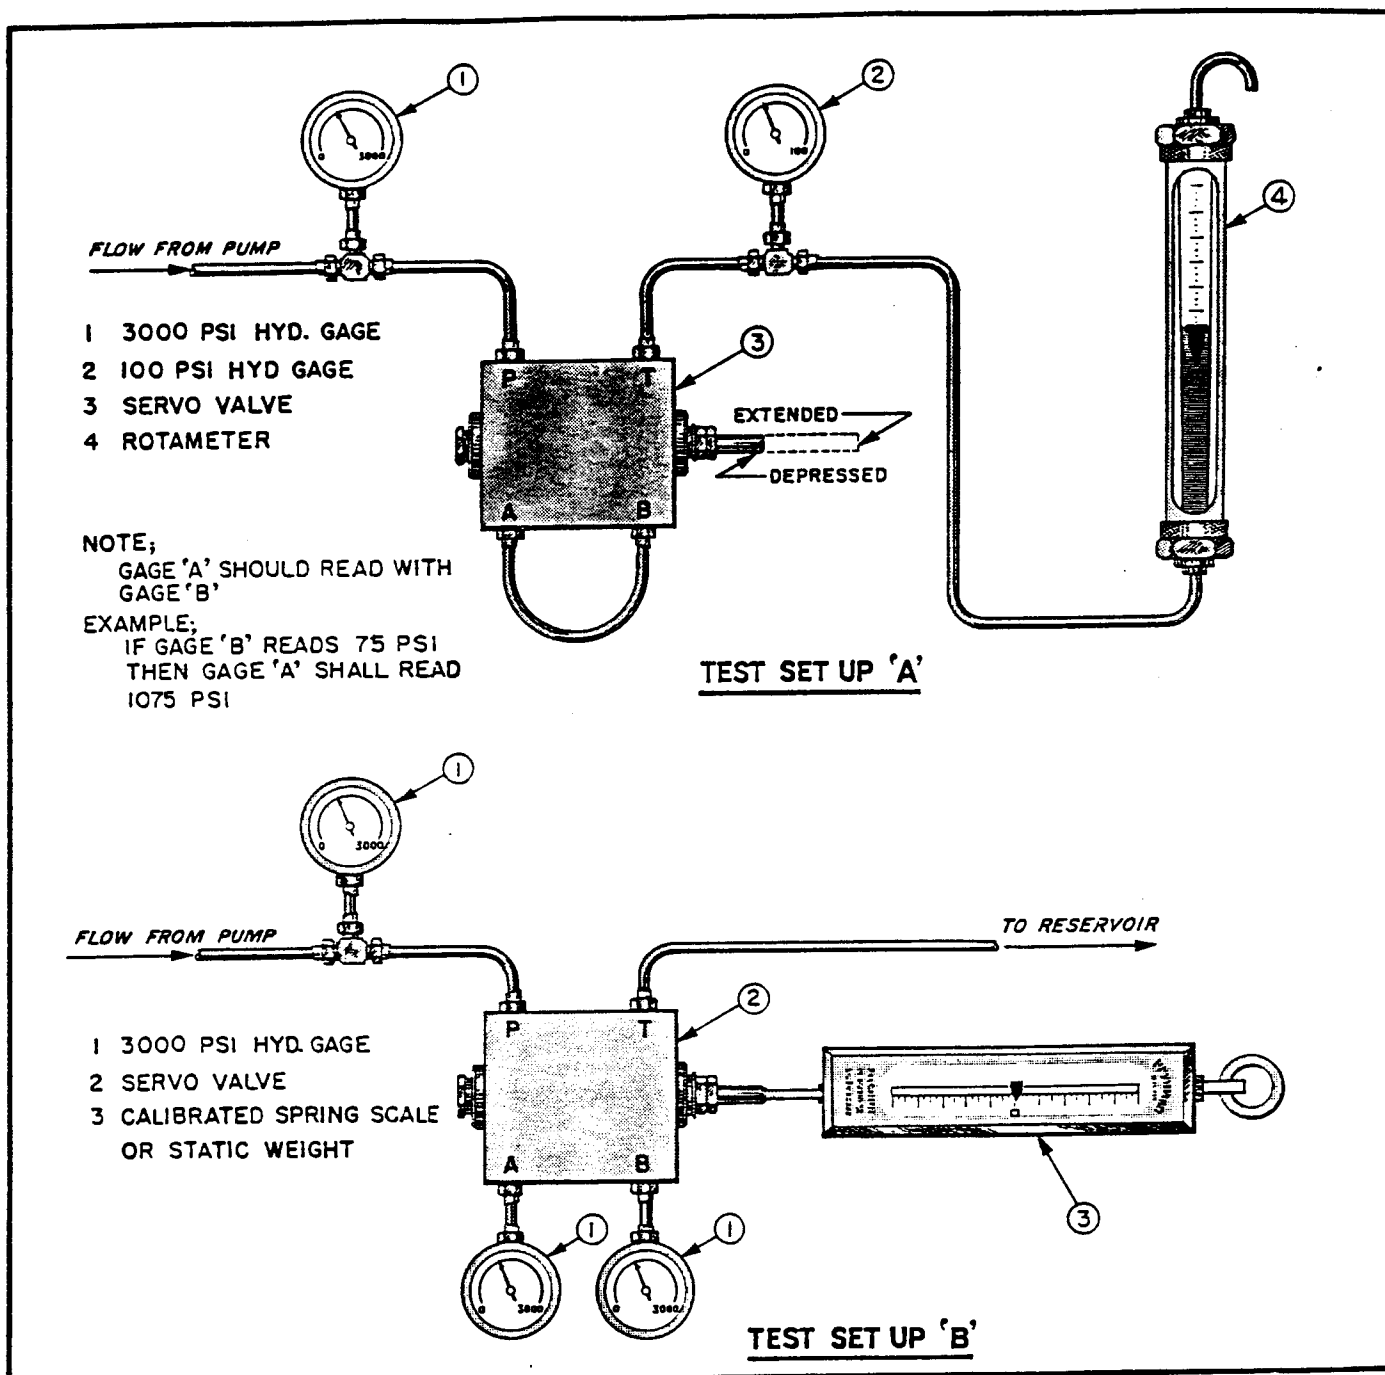

Figure 29. Rudder Servo Valve Test Set-Up
a. DIRECTION OF FLOW; FLOW IN PRESSURE PORT. (Refer to figure 29, test set-up "A".)
1. A minimum flow of 9.80 gpm should be obtained with the spool fully depressed and the cylinder ports interconnected. (See figure 29, test set-up "A".)
2. A minimum flow of 8.85 gpm should be obtained with the spool fully extended and the cylinder ports interconnected. (See figure 29, test set-up "A".)
2. Connect the valve as shown in figure 29, test set-up "A".
2. The valve should be connected as shown in Figure 29, test set-up "B." The force required to move the spool in any rotational position, at 2000 psi should not exceed five pounds. Forces should be measured at neutral (point at which pressure gages read the same) and at .06 and .125 displacement each side of neutral.